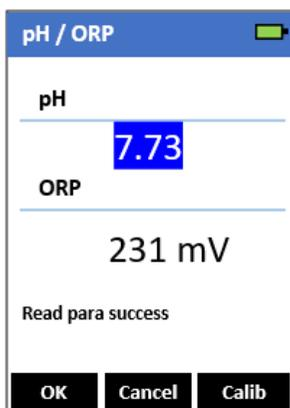

Figure 13.
5. The pH and ORP values will be updated every two seconds on the SP-208 main module display. The values will be displayed in white with a **blue background** once a stable value is reached (Figure 13).
1. Press **Measure** () to switch the measurement mode to **pH/ORP** mode (Figure 13). This will automatically power on the pH/ORP module. The indicator light of the module will be **green** and flashing when powered on. The main module of the SP-208 will automatically connect after the pH/ORP module has been powered up.